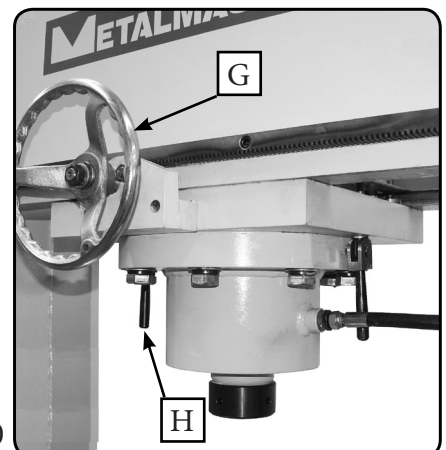

Fig. 10
- G. Moving Head Handwheel - Moves the head right or left. (Fig.10)
- H. Moving Head Lock - Locks the head after it has been moved. (Fig.10)